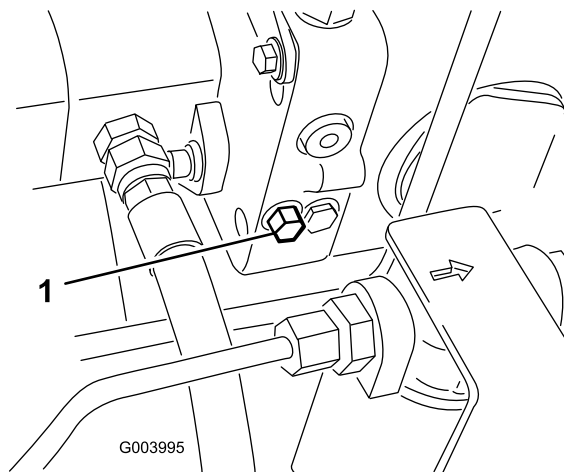

Figure 44
- The bypass valve is located on the left side of the hydrostat (Figure 44). Rotate the bolt 1-1/2 turns to open and allow oil to bypass internally. Because fluid is bypassed, the machine can be moved slowly without damaging the transmission.